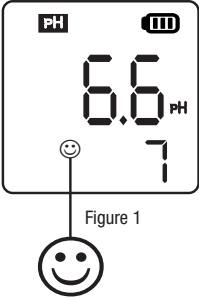

Figure 1
- Dip the probe in pH 7.00 buffer solution, stir gently, and allow it to stand still in the buffer solution until a stable reading is reached. When measurement stability icon (☺) appears and remains on the screen (see Fig 1); then short press CAL/↵ key to complete the one-point calibration. The tester returns to measurement mode and indication icon “**M**” will appear at the bottom left of the screen, indicating the middle point of calibration has been completed.